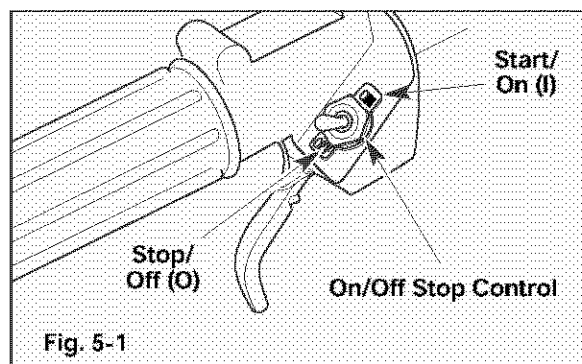

Fig. 5-1
2. Make sure the On/Off Stop Control in the ON (I) position (Fig. 5-1).